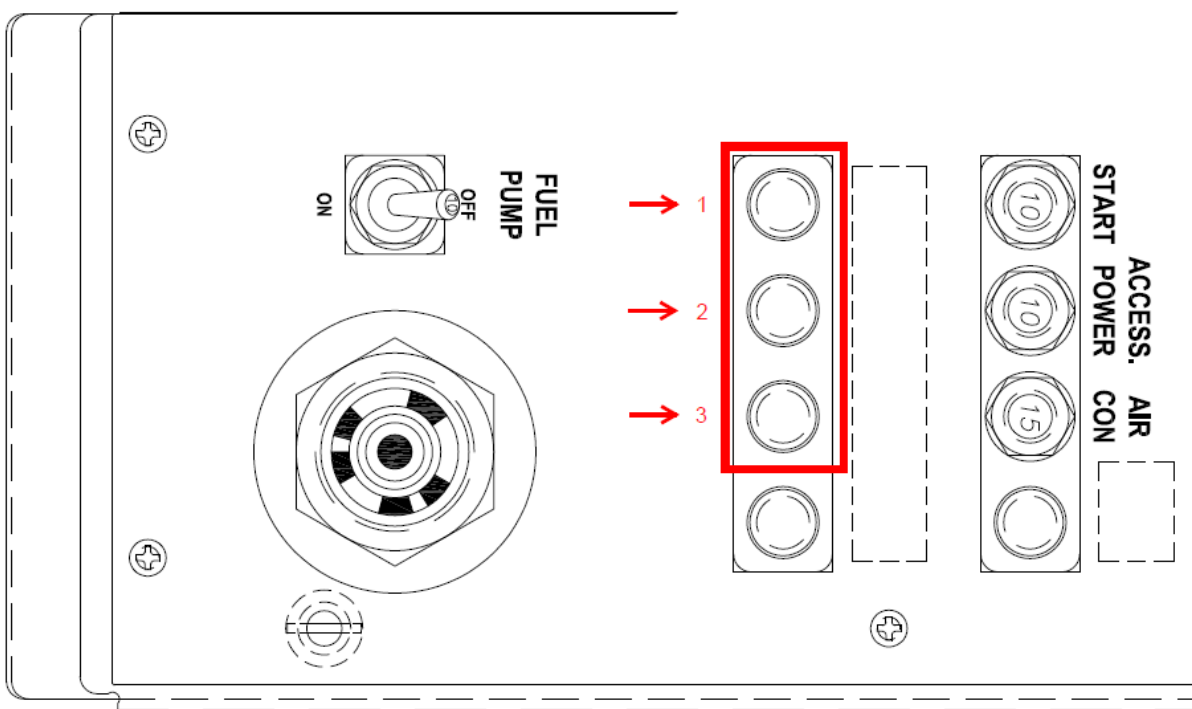

Figure 1 – Suitable Circuit Breaker locations
1. Establish if a suitable location exists in the overhead panel for fitment of the new circuit breaker. This Service Bulletin only allows fitment of the new circuit breaker in one of the 3 positions highlighted in Figure 1. The new circuit breaker should be installed in the lowest number possible.